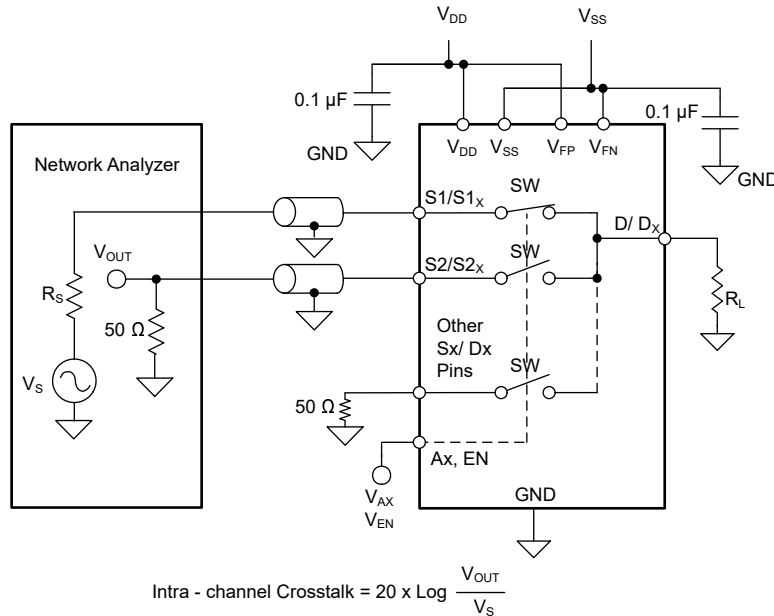

Figure 8-15. Intra-Channel Crosstalk Measurement Setup
1. Intra-channel crosstalk ($X_{TALK(INTRA)}$): **Figure 8-15** shows the voltage at the source pin (S_x) of an off-switch input when a signal is applied at the source pin of an on-switch input in the same channel.